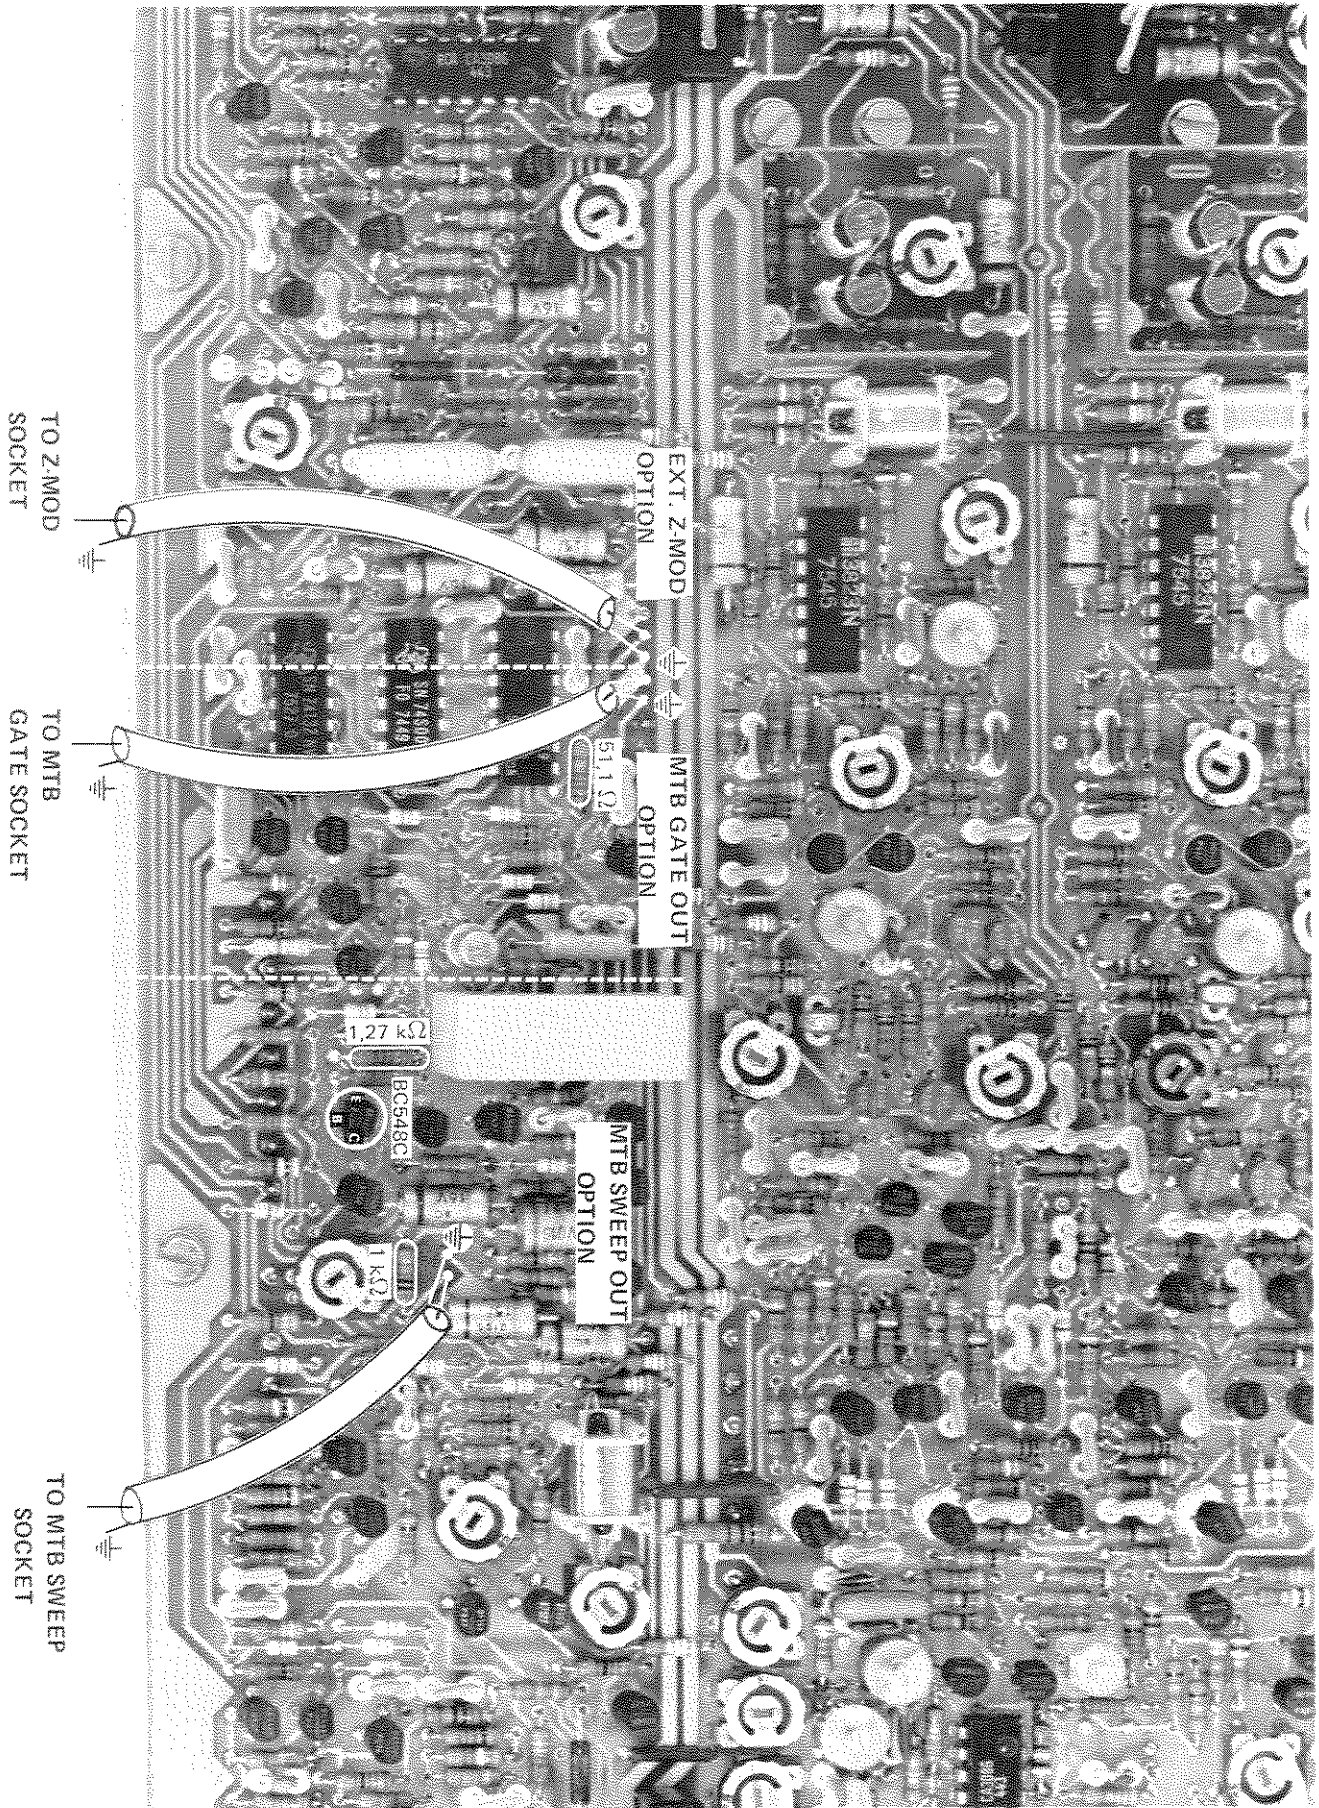

Fig. 3.32. Mounting the component and the cables
Connect one end of the coax. cable to the points indicated in Fig. 3.32 and the other end to the BNC connector which has been mounted on to the rear of the oscilloscope as described in section 3.6. Make sure that the coaxial cable is also earthed at the BNC connector end.
- Fit the resistors as indicated in Fig. 3.32.
- Fit the transistor as indicated in Fig. 3.32.
- Connect one end of the coaxial cable to the points indicated in Fig. 3.32 and the other end to the BNC connector.
- Fit the resistor as indicated in Fig. 3.32.